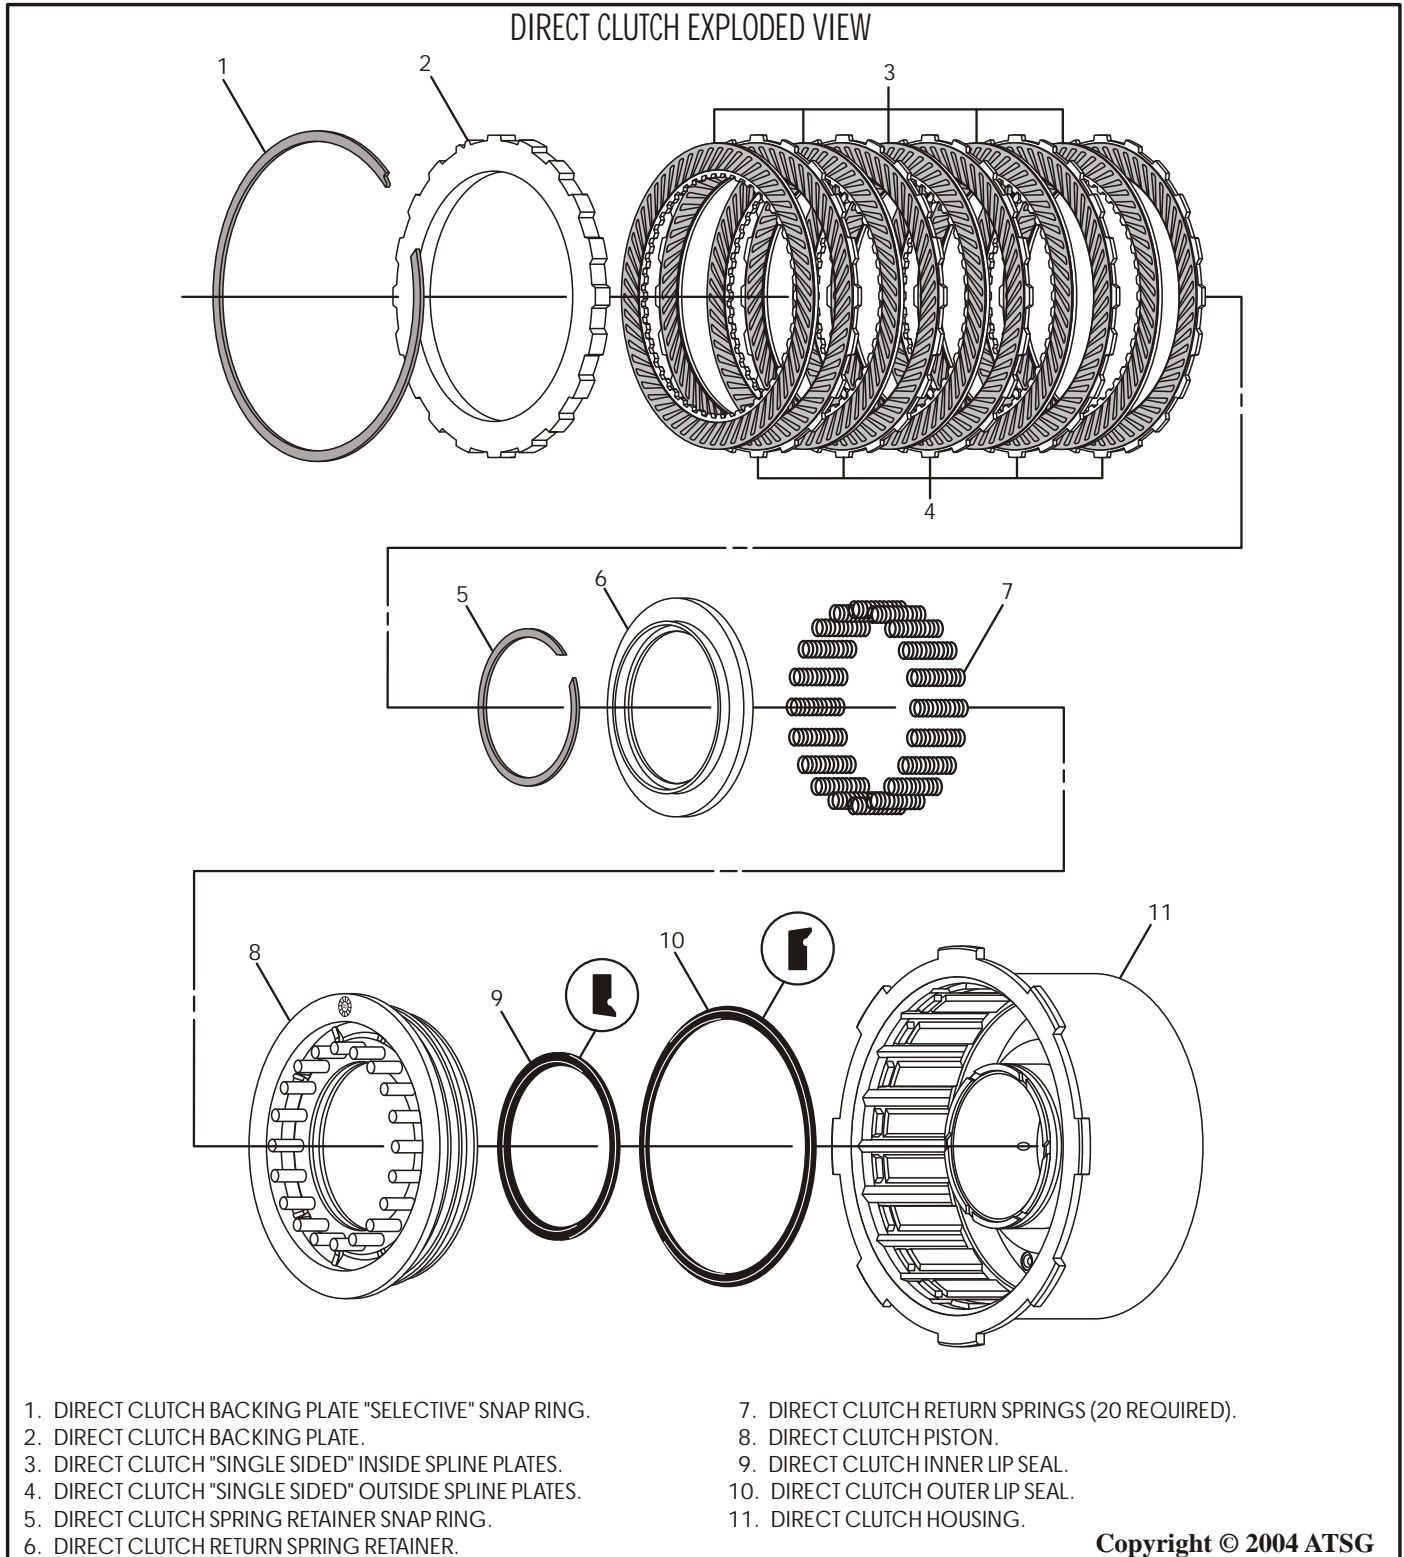

Figure 77
1. Disassemble the direct clutch assembly using the illustrations in Figure 77 as a guide.
2. Remove and discard the direct clutch lip seals, as shown in Figure 77.